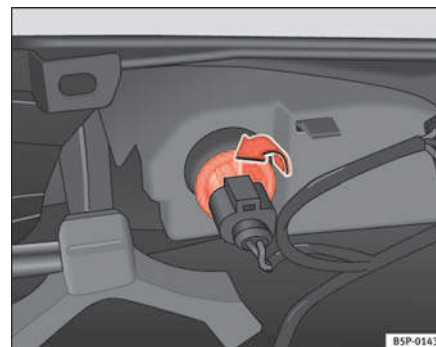

Fig. 185 Lamp on interior side of bumper
- Rotate the lamp holder to the left, and remove it in the direction of the arrow ⇒ fig. 185.